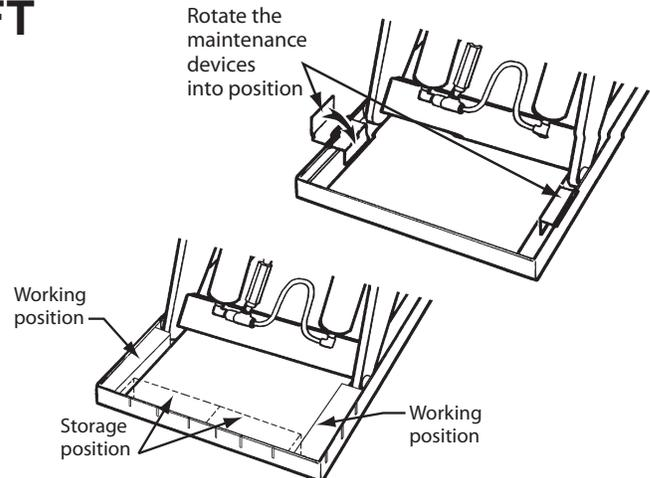

Figure 1 – Safe Servicing of Lift
3. Remove the maintenance device(s) from its/their storage location and place it/them into the engaged position as shown in Figure 1. (Note: further information may be useful here to provide additional instructions as to the location and method of storage and engaged positions).
12. **Raise the lift and insert the maintenance devices**, as shown in Figure 1.
When adjusting the flow control, always raise the lift table and insert the maintenance devices, as shown in Figure 1. Do not try to adjust the flow control while pressing the “down” button. If you try this, the lift table may drop suddenly, and you may be hurt.
- **Raise the lift table and insert the maintenance devices**, as shown in Figure 1.
- Every time you want to change the adjustment again, raise the table again and insert the maintenance devices as shown in Figure 1.